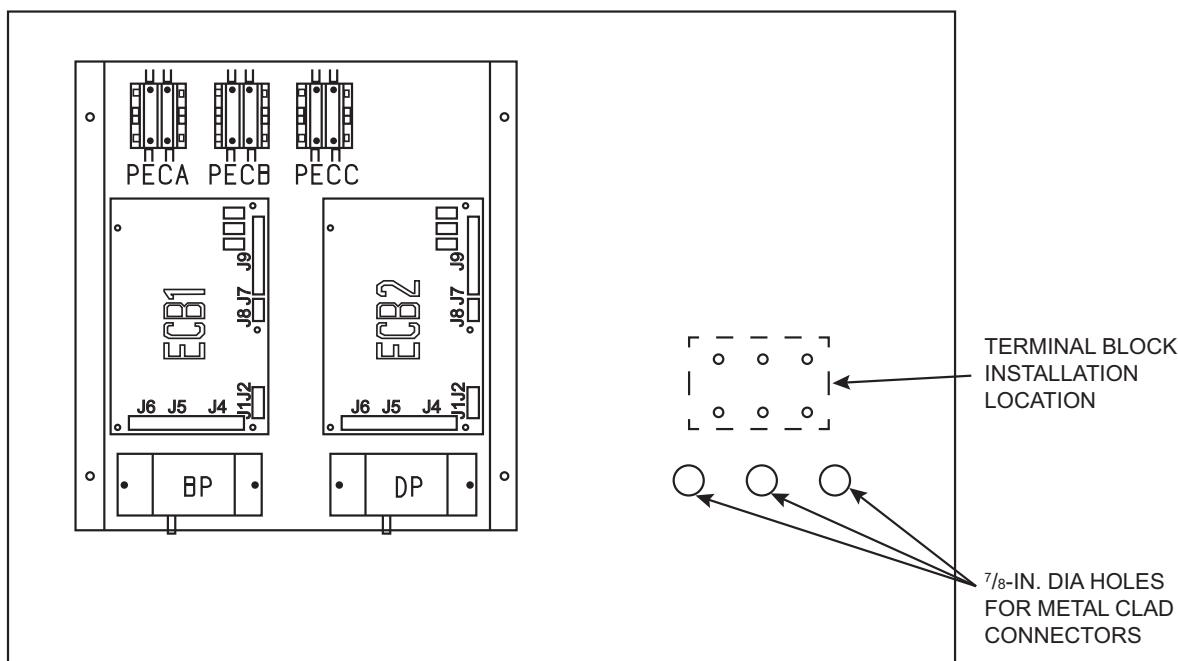

Fig. 3 — Auxiliary Control Box
4. Open the unit filter access door. Remove the panel below the filters that covers the auxiliary control panel. See Fig 2. Mount the auxiliary control panel terminal block in the auxiliary control box in the location shown in Fig 3.
5. Route the wires from the 20-ft long power exhaust control and power harnesses through the hole(s) in the auxiliary control panel. See Fig. 3. Secure the metal clad connector with the locknut.
5. Open the unit filter access door. Remove the panel below the filters that covers the auxiliary control panel. Mount the auxiliary control panel terminal block in the auxiliary control box in the location shown in Fig 3.
6. Route the wires from the 20-ft long power exhaust control and power harnesses harness through the hole(s) in the auxiliary control panel. See Fig. 3. Secure the metal clad connector with the locknut.